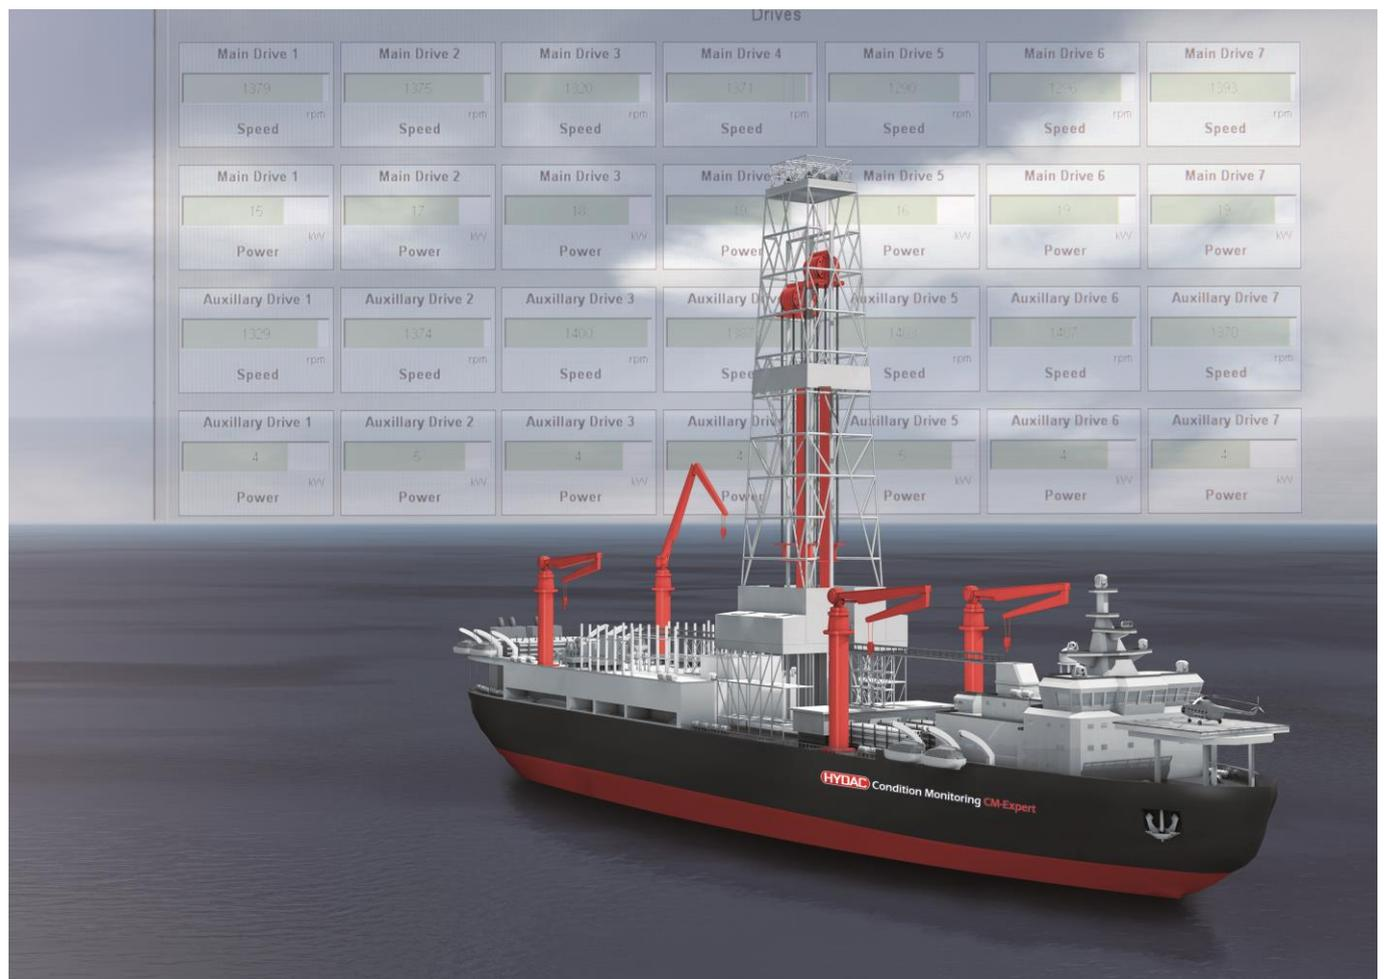

Fig. 1. Drilling ship is ideal object for the Condition Monitoring System.
A drilling ship (Figure 1) equipped with the Condition Monitoring (CM) system is 228 m long, 42 m wide and can drill down to a depth of 10 000 meters. The wave compensation system can compensate against waves of up to 7.6 m with full drilling power with the positioning of the drilling ship being controlled by “Dynamic Positioning” GPS-controlled software. The main hydraulic system has a total oil volume of 90 000 litres, out of which 16 000 litres is in the piping system and in drilling tower cylinders. The cylinder stroke is 24 m with a normal moving speed of 1.5 m/s and 2.5 m/s in fast action when the 29 hydraulic pumps give a flowrate of up to 33 000l/min.